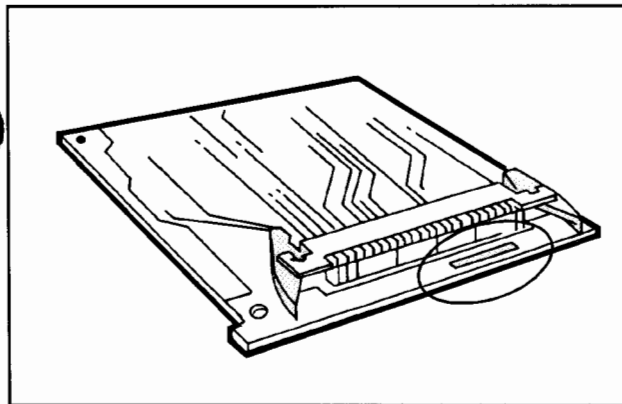

Figure F-1. Identifying the Memory Board
1. Identify the board (see figure F-1). In the table below, "xxxxx" indicates that the last five digits are manufacturer's part numbers that may change. Refer to the circle in figure F-1 for part number location.